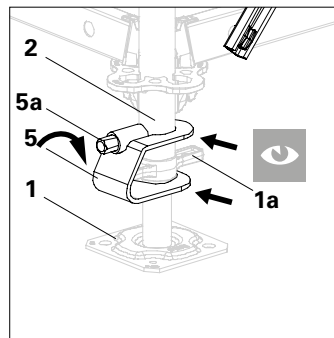

Fig. A2.07e
1. Mount Spindle Locking UJS (**5**) and fix in position by turning the bolt (**5a**). (Fig. A2.07e)